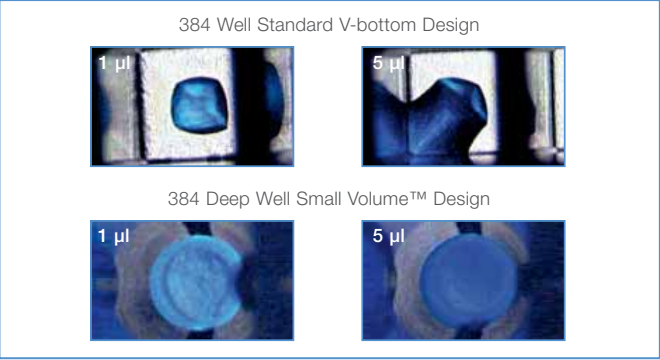

Figure 2: Location of liquid at the bottom of different microplate wells
- Focused liquid samples (Fig. 2)
The focused aggregation of even small sample volumes in the well centres (Fig. 2) allows the transfer of small amounts of highly concentrated compound solutions with pin tools or capillary-based liquid handling systems. Direct compound transfer of 50 nl from storage to assay plate is possible and pre-dilution of concentrated compounds becomes redundant.